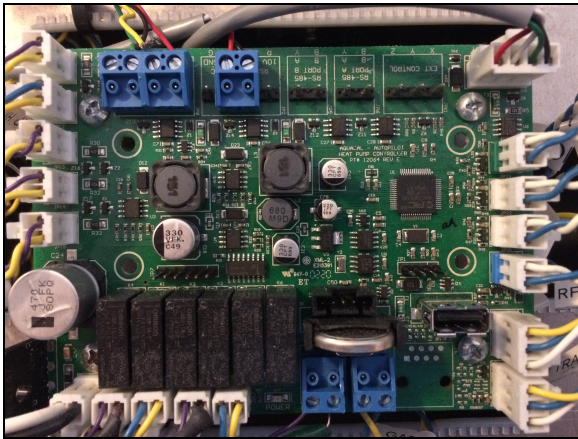

Figure 1 - HP9 Control Board
1. Heat Pump with an HP9 Control Board. See Figure 1.